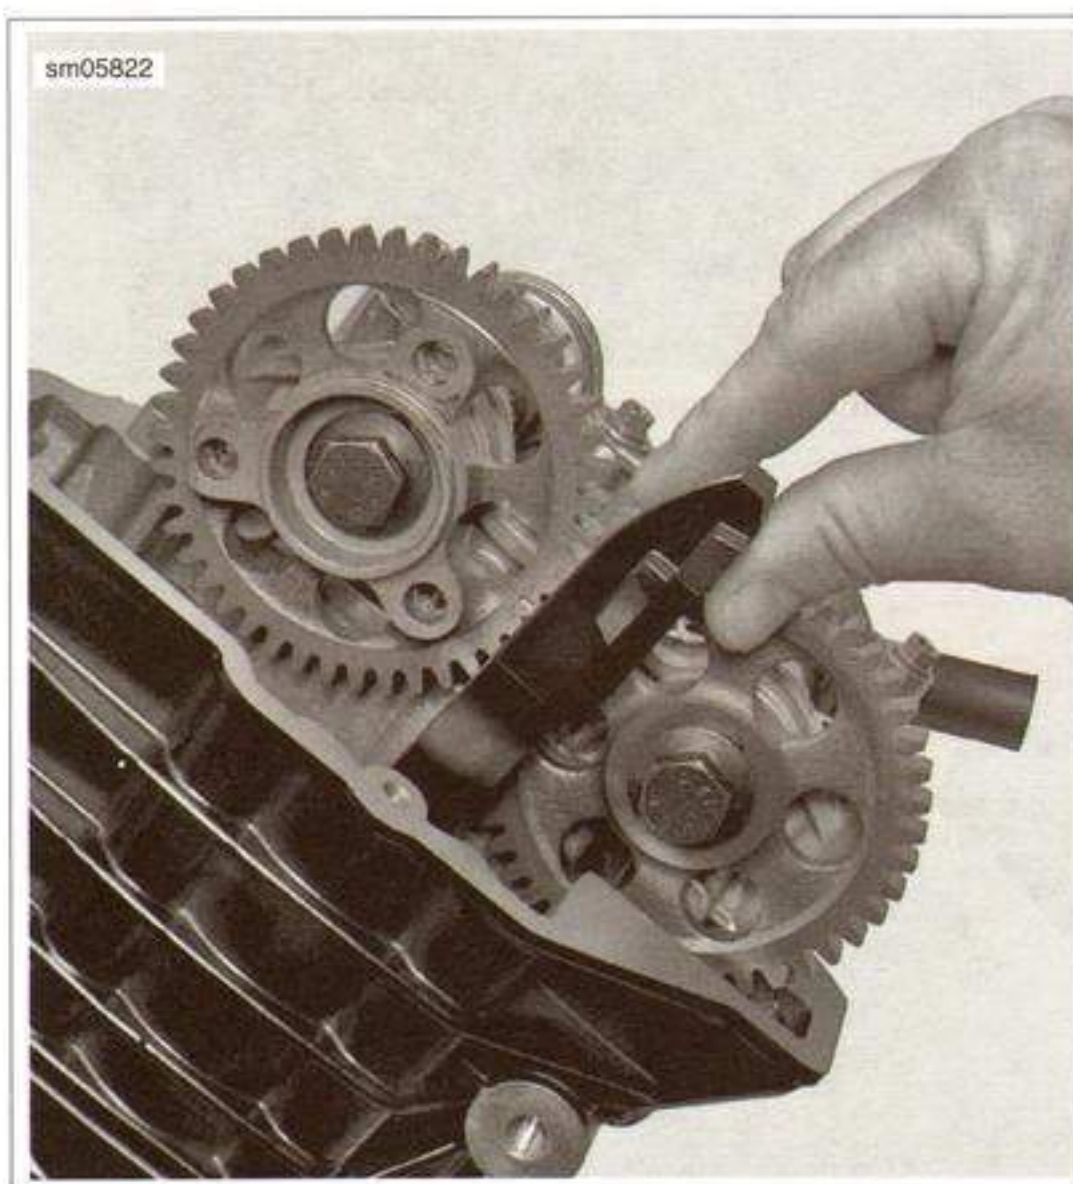

Figure 3-69. Camshaft Chain Guide
8. See Figure 3-69. Remove camshaft chain guide from cylinder.